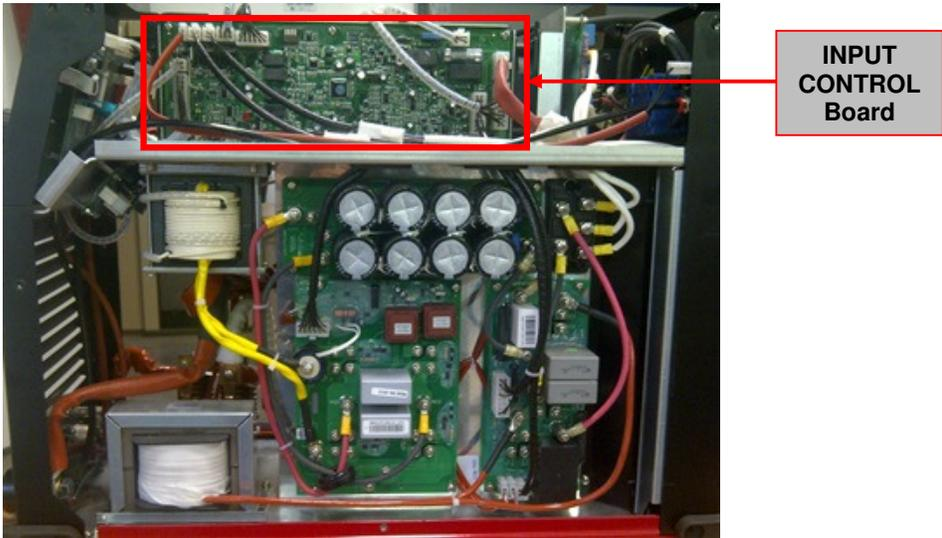

Figure 8 – W05X1460 INPUT CONTROL Board location
3. Locate the Input Control Board on the upper right side of the machine. See **Figure 8**.